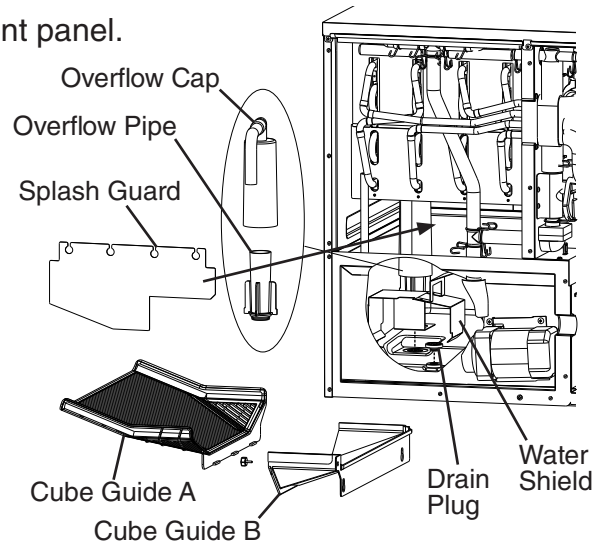

Fig. 5
7) Remove the insulation panel, then remove splash guard, cube guide B, and cube guide A. Next, remove the overflow cap, overflow pipe, water shield, and drain plug. See Fig. 5.